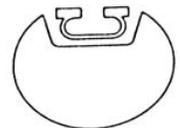

Fig. 12
10. Allow an even space around the attachment for solder. (Fig. 12)